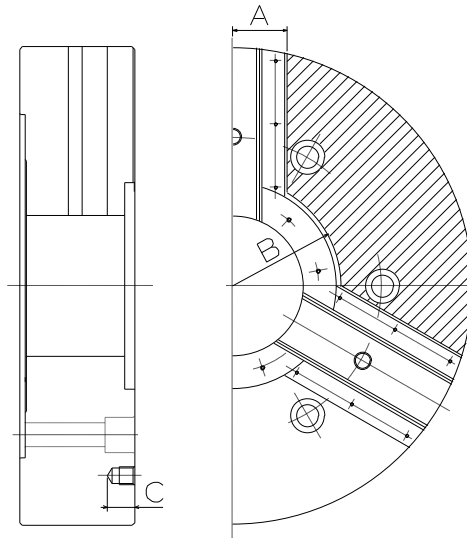

Fig.15
- In the case of attaching the locator and the jig on the chuck body surface, tap or drill a hole in the additional process range specified in Fig. 15.